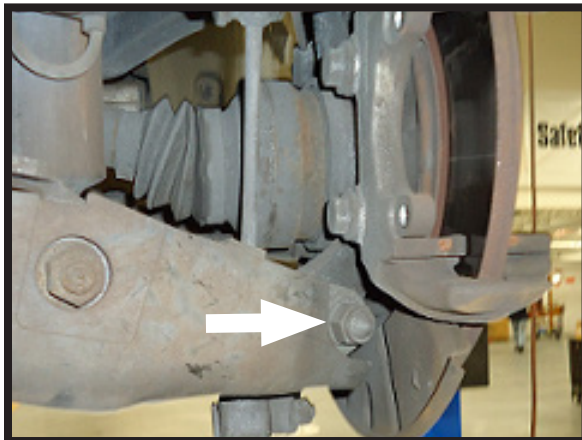

FIGURA 11
11. SMONTARE IL BRACCIO ESTERNO DELLA SOSPENSIONE. (FIGURA 11)